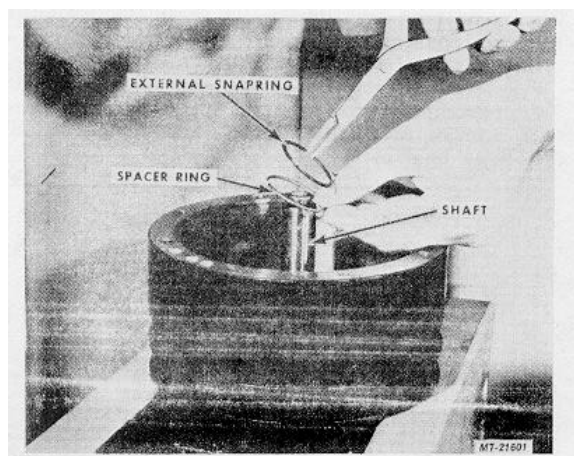

Fig. 71
34. Install Spacer Ring and External Snapping, Fig. 71.